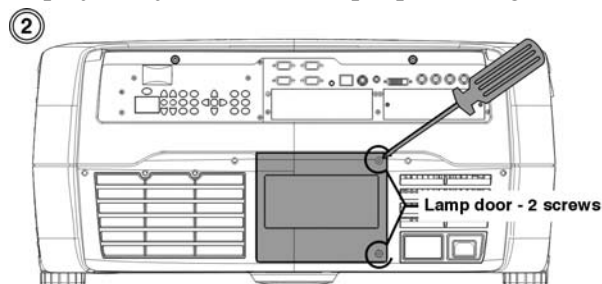

Figure 46. Remove Lamp Door
2. Using a screwdriver, loosen the two (2) screws from the lamp door located at the back of the projector just below the input panel. (Figure 46.)